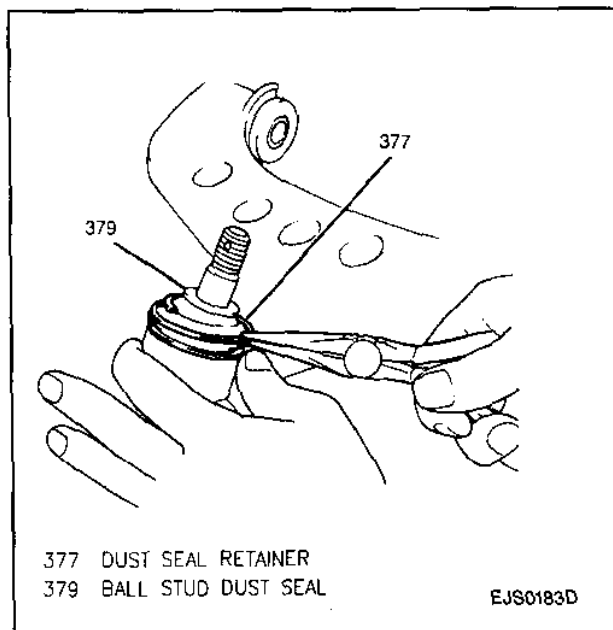

Figure 19—Removing Dust Seal Retainer
11. Dust seal retainer and dust seal from ball stud (Figure 19).